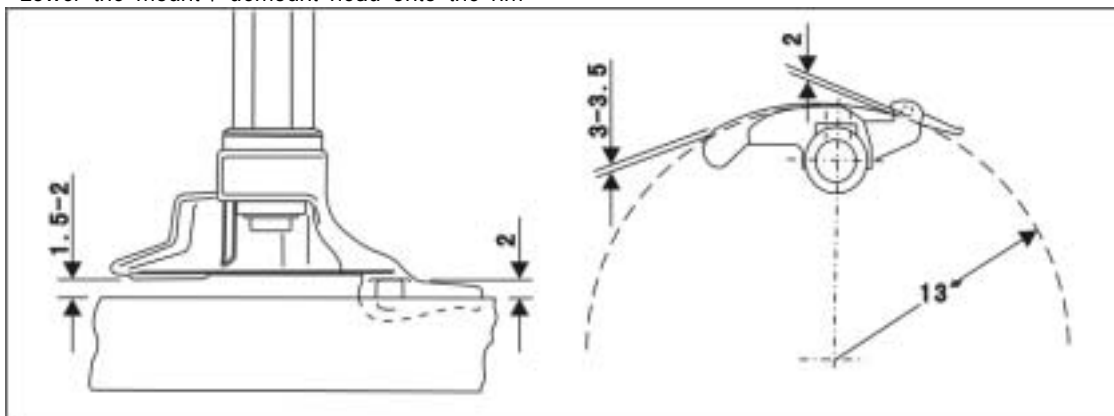
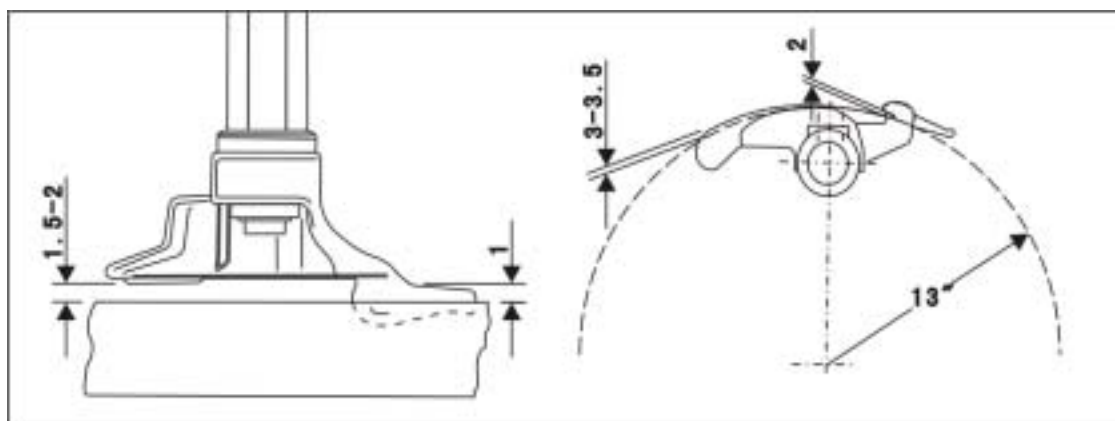

Fig.33
Fig.34
- By means of the appropriate gauge kit, check measurements as indicated in fig.33 (for mount/demount head with roller) and fig.34 (mount / demount head with insert).